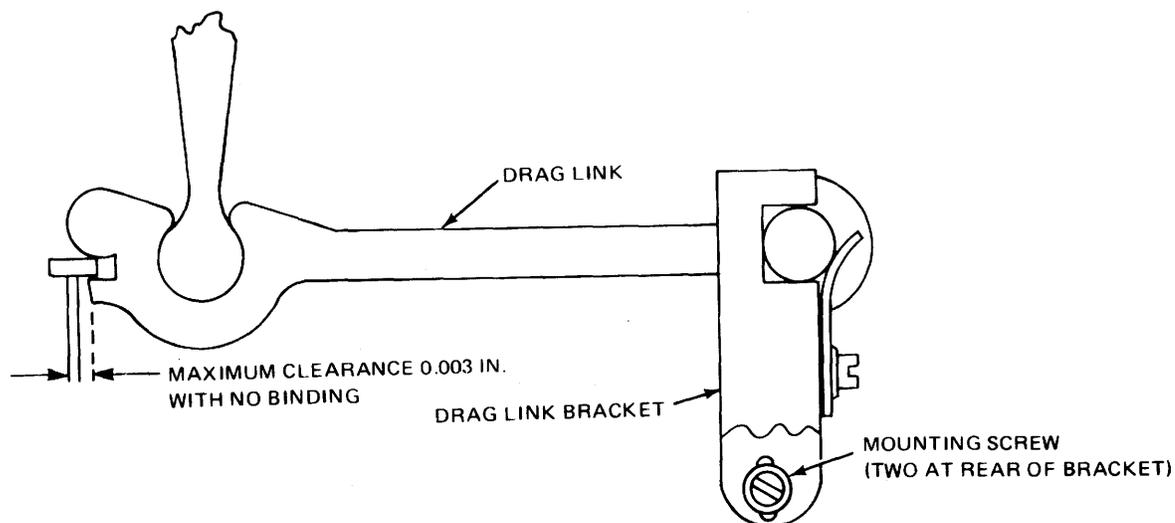

Figure 6-25. Drag Links Adjustment.
3. Adjust punch block (see figures 6-25 and 6-26).
- a. Verify that the clearance between drag links and punch pins is a maximum of 0.003 inch with no binding (see figure 6-25). If required clearance exists, proceed to step 4; if not, continue with step 3 b..
h. Loosen mounting screws (see figure 6-25).